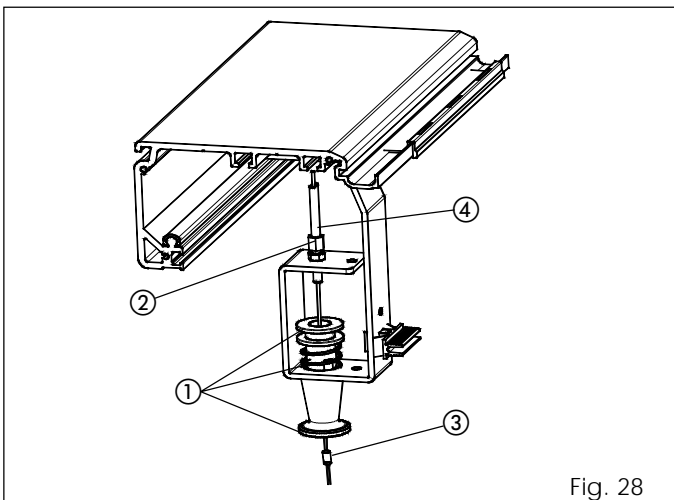

Fig. 28
- Assemble the release knob as indicated in fig. 28 ref. ①.
- Screw the adjuster, with the relevant lock nuts, on the internal part of the bracket (fig. 28 ref. ②).
- Secure the steel cable with the cable gland and the appropriate screw (fig. 28 ref. ③).
- Take the cable sheath against the adjuster (fig. 28 ref. ④).